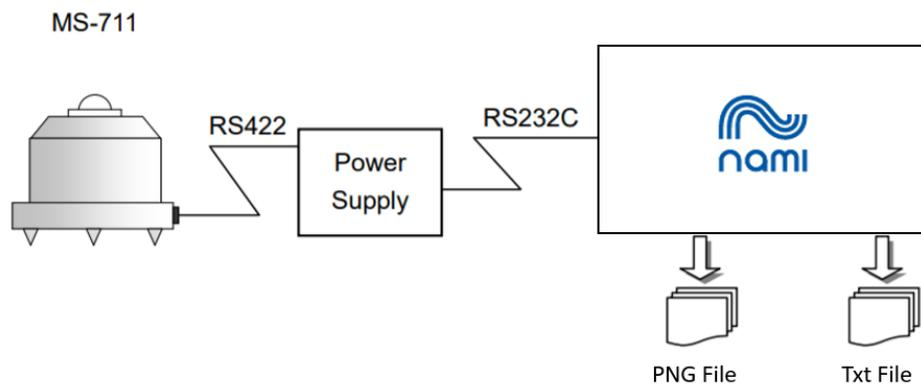

Fig.2-1-1. Connection with MS-711
1. Single shot measurements and interval measurements using only the MS-711 (Fig. 2-1-1)